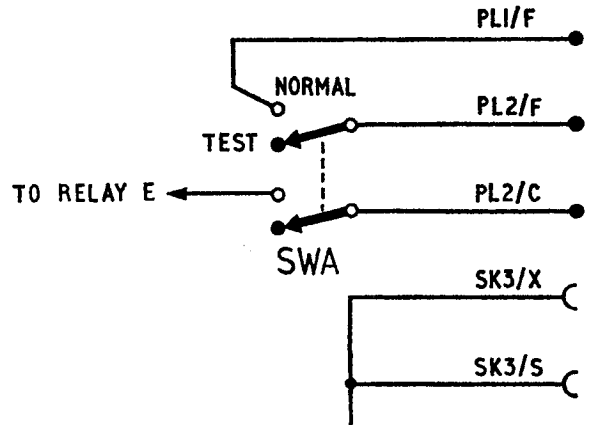

Fig. 1. Waveform generator Type 80B—scrap circuit
Waveform generator Type 80B—scrap circuit ...	Fig. 1
5. The Type 80B (fig. 1) also has the following modifications to the h.t. line: